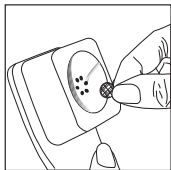
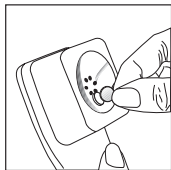

Figure 2
Figure 3
3. Place the double-sided tape in this optimal position on the telephone receiver (Figure 2) and attach the magnet to the tape (Figure 3).